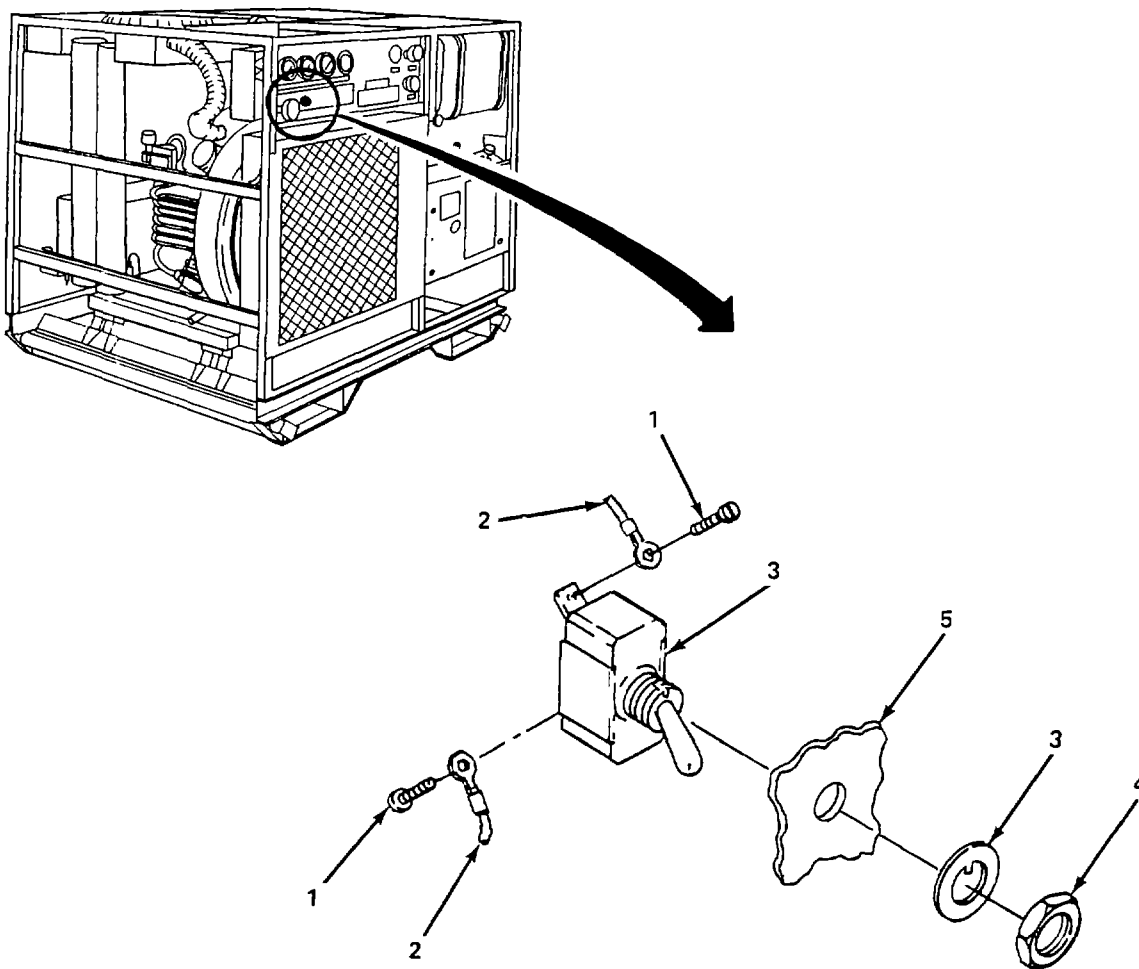

Figure 4-17. Switches (ON/OFF), Replace.
(8) Switches (ON/OFF). (figure 4-17)